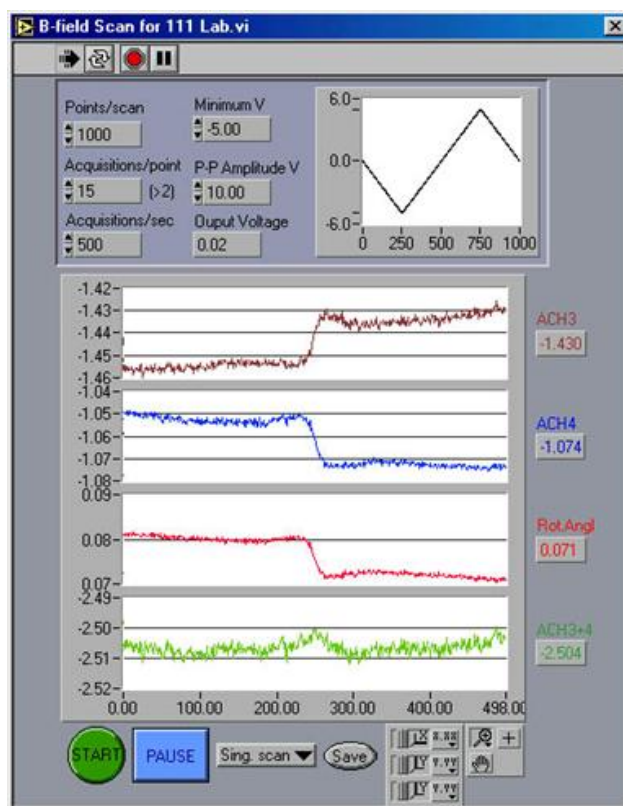

Figure 17: The B-Field Scan
- When there is a strong glow, start the “B field scan for 111 lab.vi” (you must ensure that the Diode Scan program is completely stopped, pressing stop in the upper left hand corner, before scanning the B field. If this is not done, you will see nothing when scanning the B field) and take a single scan across the atomic resonance encompassing all four line groups. The settings should be 1000 points/scan, 15 Acquisitions/point, 500 Acquisitions/second,  $-5.00$  V Min Voltage, and  $10.00$  V P-P Amp Voltage. It should look something like Figure 17.
7. You are now ready to take Faraday effect data. Decide at which frequency point you would like to study the B-dependence of the Faraday rotation. A good first choice is the center of the  $F = 3 \rightarrow F'$  peak for 85Rb. Run the Diode Scan again to scan the laser frequency and stop the scan on this peak. Then be sure to stop the Diode Scan program, and open up and run the “B-field scan for 111 lab.vi”. The settings should be 1000 points/scan, 15 Acquisitions/point, 500 Acquisitions/second, -5.00 V Min Voltage, and 10.00 V P-P Amp Voltage. The signals should look like Figure 17. This allows you to set the magnetic field (i.e. AO 1) scan parameters and display raw signal from one of the photodiodes (PD-1, or PD-2). The optical rotation angle determined as discussed above, and the sum of signals of photodiodes (PD-1 and PD-2) is a measure of power of the laser beam after the sample.